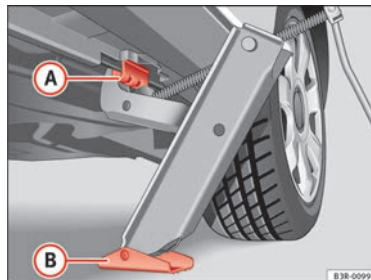

Fig. 199 Changing a wheel: Jack
- Align the jack so that the arm of the jack fits on the rib under the door sill ⇒ Fig. 199 (A) and the movable base plate of the jack (B) is flat on the ground.